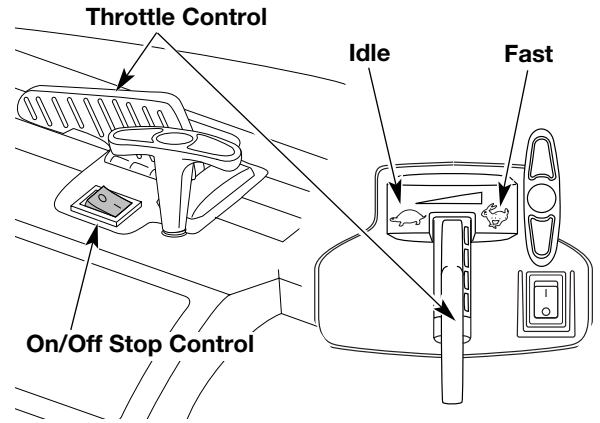
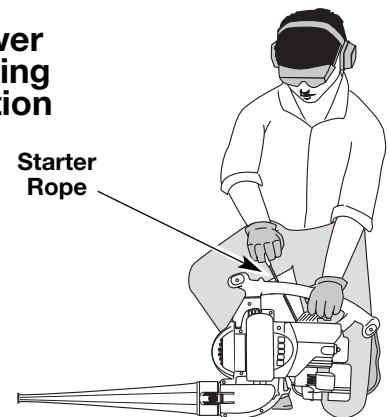
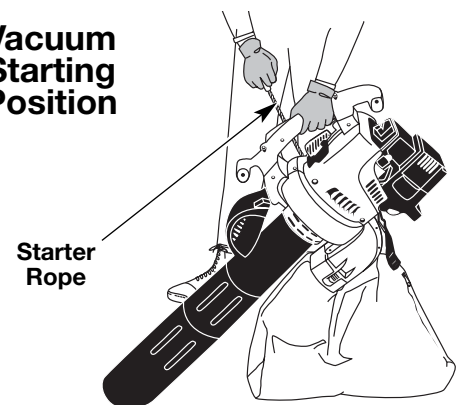

Fig. 10
Fig. 12
Fig. 13
WARNING: Avoid accidental starting. Make sure you are in the starting position when pulling the starter rope (Fig. 12 and 13). To avoid serious injury, the operator and unit must be in a stable position while starting.
4. Place the unit in the starting position (Fig. 12 as a blower, Fig. 13 as a vacuum). Move the throttle control to the fast position (↻) (Fig. 10).